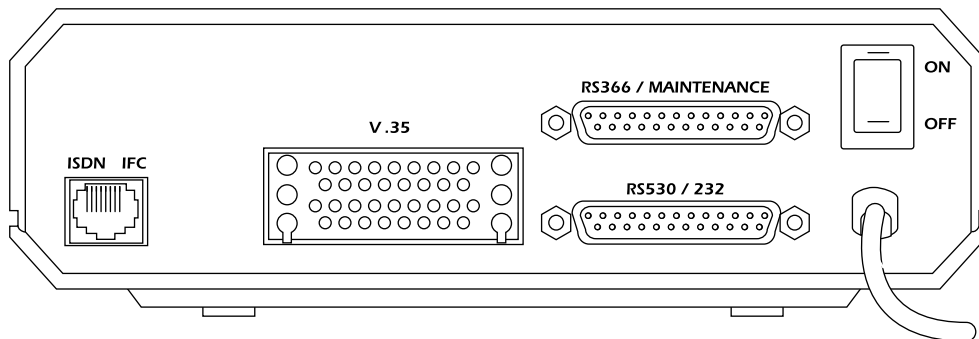

Figure 1-1
The ISU 128 has one RJ-45 jack available on the rear panel for network connection (see Figure 1-1). The RJ-45 jack labelled **ISDN IFC** is for ISDN Basic Rate. ISDN Basic Rate service divides a standard telephone line into three digital channels capable of simultaneous voice and data transmission. The three channels are comprised of two bearer (B) channels at 64 kbps and one data (D) channel at 16 kbps (2B+D).